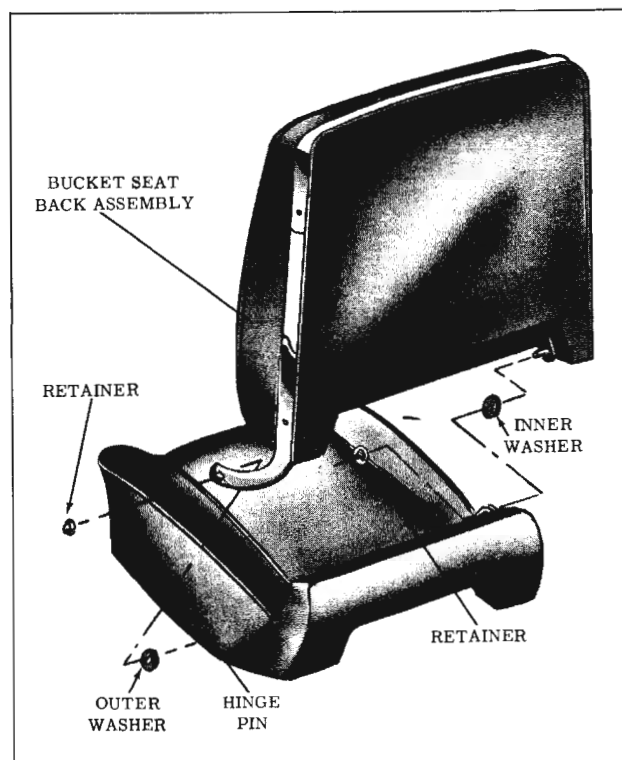

Fig. 16-89 Bucket Seat Back Removal
- retainer from outer hinge pin. (Fig. 16-89)
2. Tilt seat back forward and remove retainer from inner hinge pin. (Fig. 16-89)
5. To install, reverse removal procedure. Prior to installation of back assembly, be sure inner and outer washers are installed over the hinge pins. (Fig. 16-89)